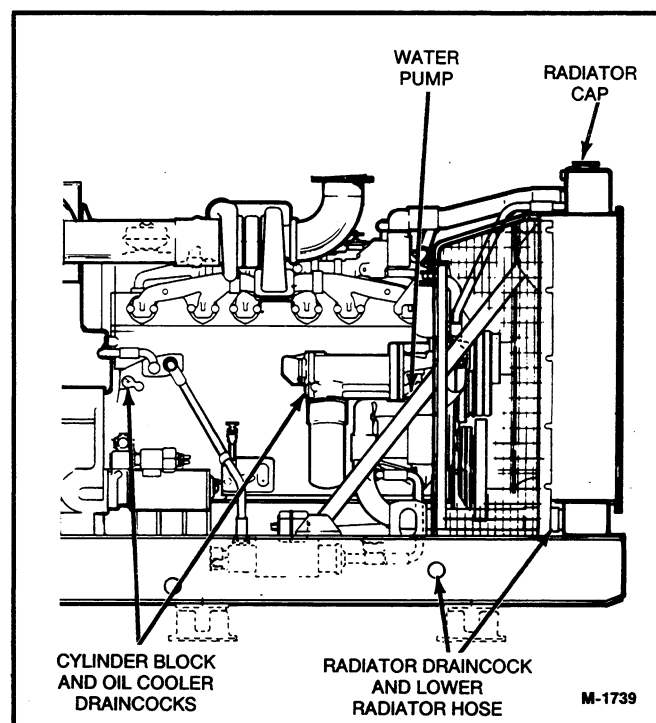

FIGURE 4-13. COOLING SYSTEM DRAINS
**Flushing:** Flush the radiator and block after cleaning or before refilling the system with new coolant as follows: (refer to Figure 4-13)